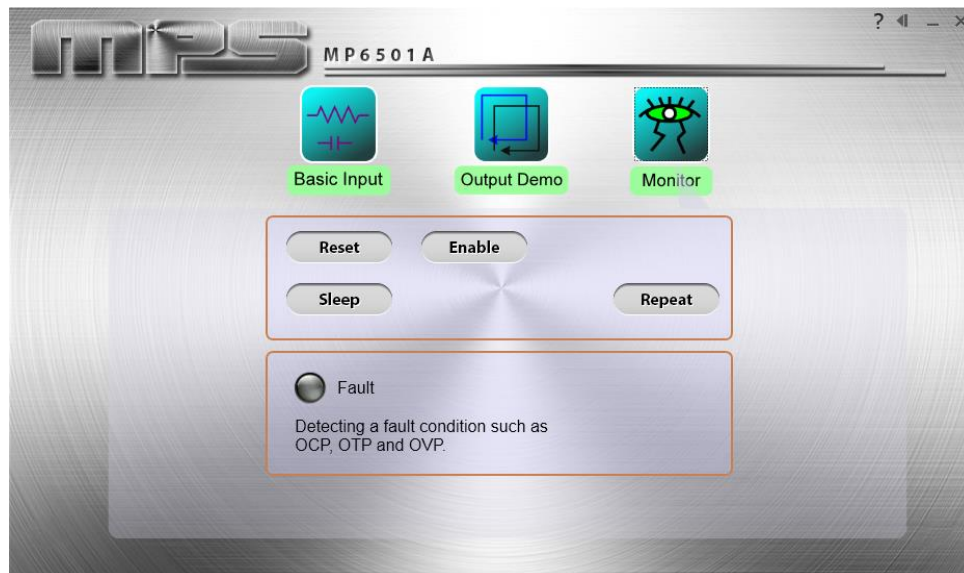

Figure 2: Monitor Page
3. Click the “Monitor” button. Figure 2 shows the screen that will be displayed.